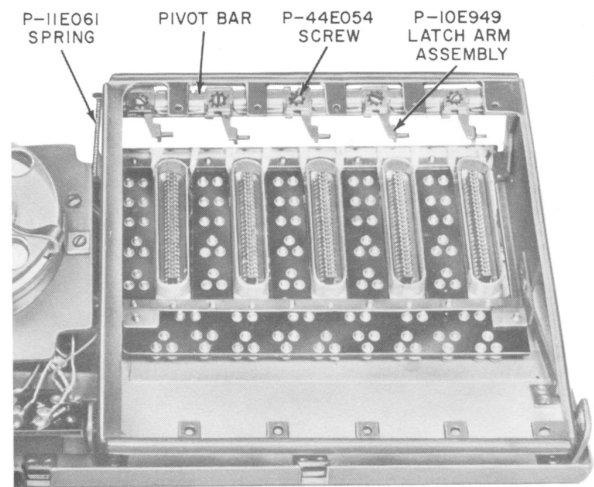

Fig. 12—Pivot Bar Assembly (Early Production)
3.05 When an operated pickup key does not remain depressed or release any previously operated key on early production sets, adjust the latch arm assembly (Fig. 12) as follows: